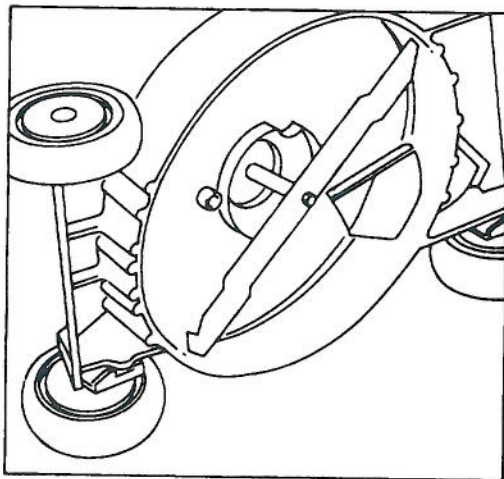

Figure 25
2. Tip mower on its right side (Fig. 25). Avoid rotating blade because starting problems may result.